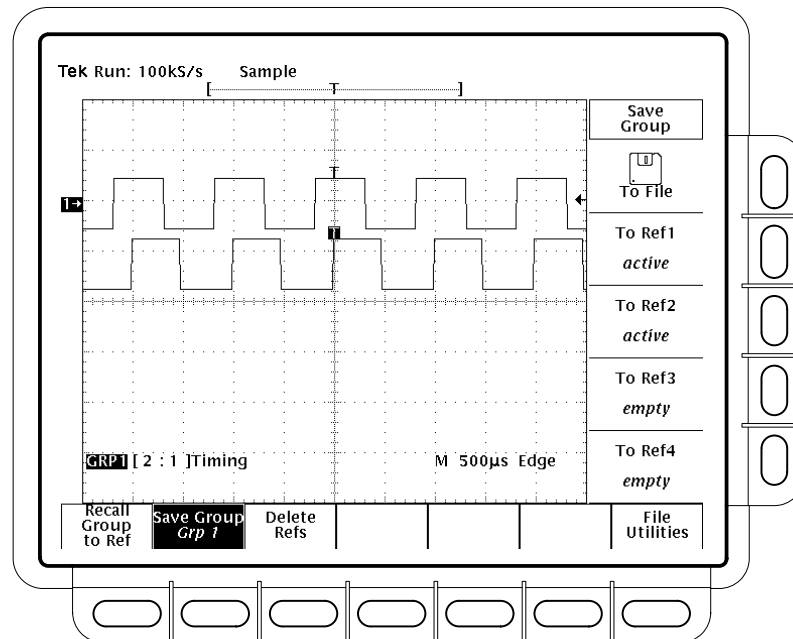

Figure 3-52: Save Group Menu
**CAUTION.** Before doing step 2 that follows, note that if you choose a reference memory location labeled **active** (see Figure 3-52), you will overwrite the waveform group previously stored there. You can store groups in reference locations labeled **empty** without disturbing previously stored waveforms.